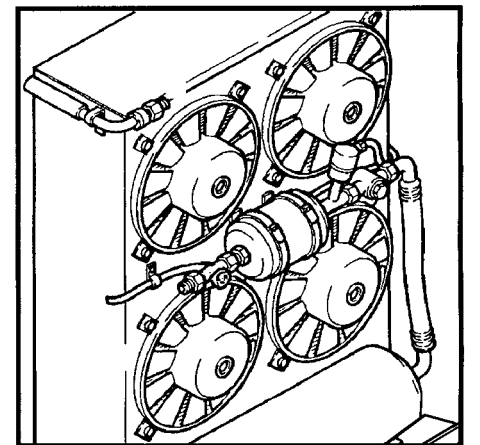

Fig. 44
- Check the heat exchanger of the condenser and if necessary blow it out with pressurised air or steam, from the inner (fan side) to outside (Fig. 44).